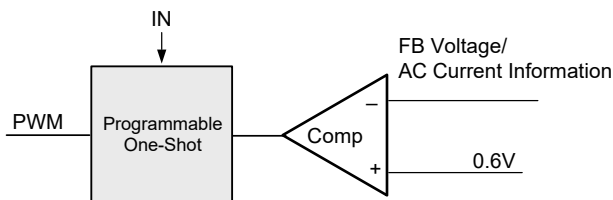

Figure 3. Simplified Control Schematic of AOZ2262NQi-12
The simplified control schematic is shown in Figure 3. The high-side switch on-time is determined solely by a one-shot whose pulse width can be programmed by one external resistor and is inversely proportional to input voltage (IN). The one-shot is triggered when the internal 0.6V is higher than the combined information of FB voltage and the AC current information of inductor, which is processed and obtained through the sensed lower-side MOSFET current once it turns-on. The added AC current information can help the stability of constant-on time control even with pure ceramic output capacitors, which have very low ESR. The AC current information has no DC offset, which does not cause offset with output load change, which is fundamentally different from other V² constant-on time control schemes.